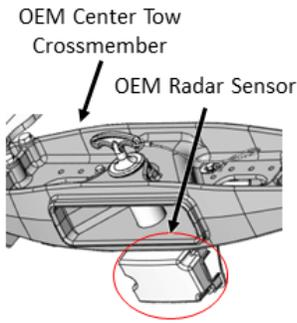

Figure 2a:
1. Check if your truck is equipped with an OEM Radar Sensor or Collision Avoidance System (CAS) as shown in Figure 2a. This Truck Guard is NOT COMPATIBLE with trucks equipped with CAS.